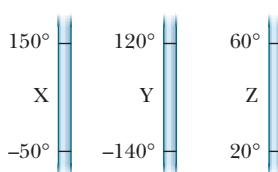

Figure 18-24 Question 2.
- 2** Figure 18-24 shows three linear temperature scales, with the freezing and boiling points of water indicated. Rank the three scales according to the size of one degree on them, greatest first.